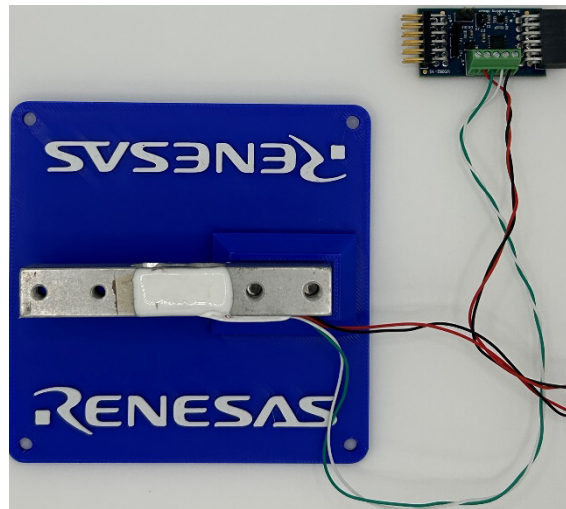

Figure 5. Load Cell Base
1. Attach the load cell to the base using M5 screws (see Figure 5).